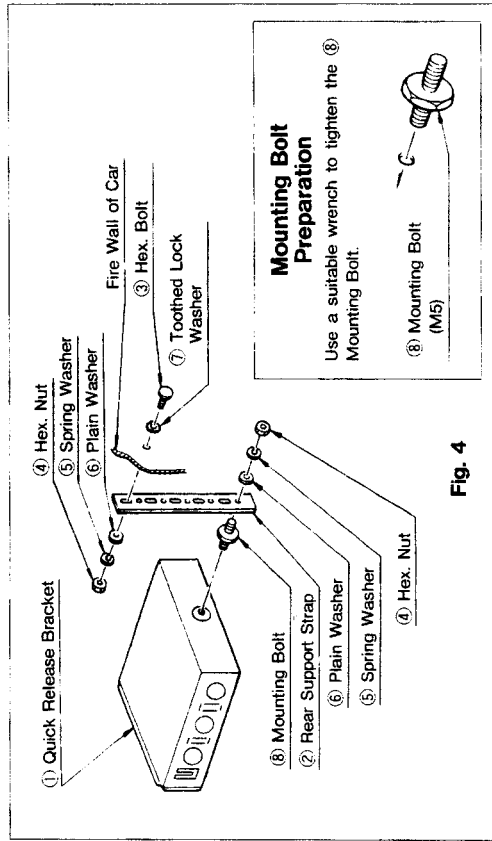

Fig. 4
■ Using the Rear Support Strap (See Fig. 4)